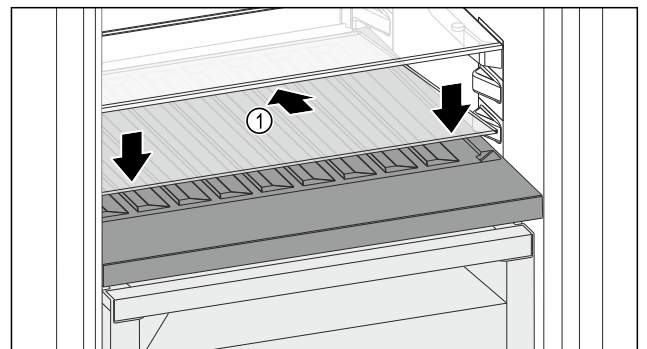

Fig. 114
- Place the glass shelf Fig. 114 (1) at an angle, tilted back and down.
- Lower the glass shelf Fig. 114 (1) at the front.